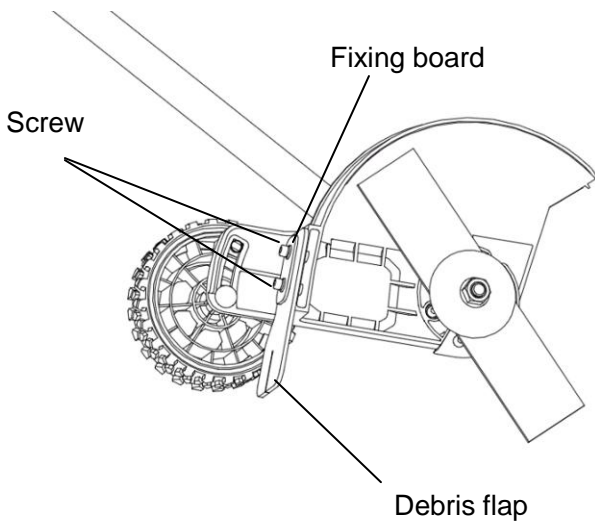

Fig. 32
3. Remove the screws, fixing board and worn debris flap (Fig. 32).